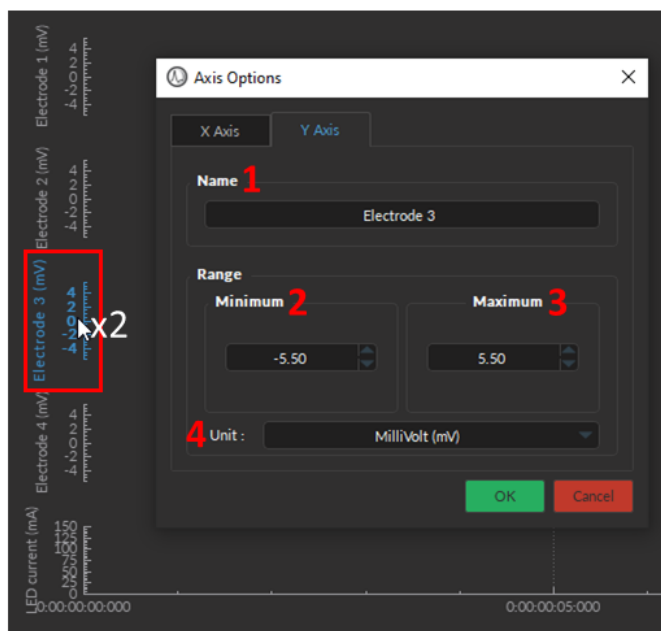

Figure 7.34: Double click on any axis to open its Axis Options window
- **Axis Options** - Each **Graph** (Fig. 7.34) has both a **Voltage** or **State** as the vertical axis and **Time** as the horizontal axis. Double-clicking either axis will open an **Axis Options** window (Fig. 7.34) where the axis limits can be set, similar to the **Zooming Range** in the **View Tab**. Any changes done on a horizontal axis will change the axis limits for every channel.